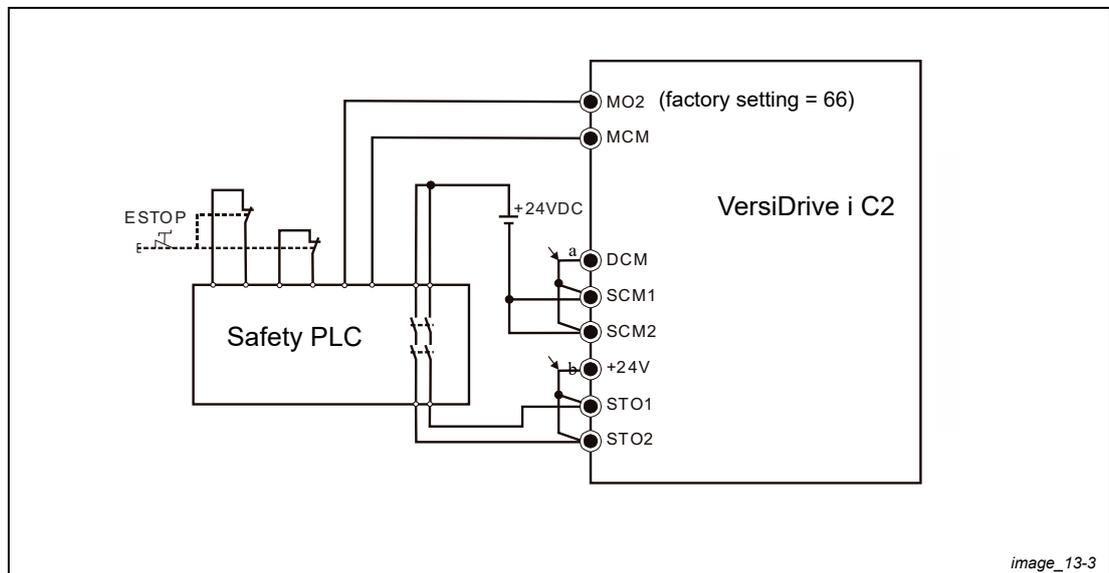

Fig. 14-3: Security circuit with safety PLC
- ① Remove the short-circuit of +24 V-STO1-STO2 and DCM-SCM1-SCM2.
- ② The wiring is shown in fig. 14-3. The ESTOP switch must be at Close status in normal situation and drive will be able to Run.
- ③ STO mode, switch ESTOP open. Drive output stop and keypad display STO.